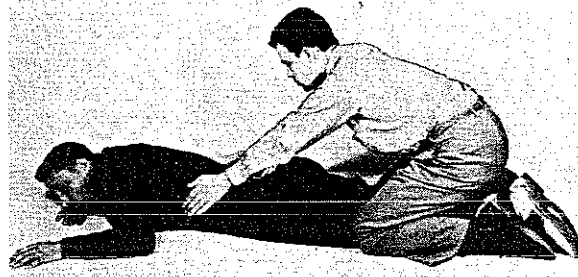

Fig. 78. Artificial Respiration—Ready to Apply Pressure
1. Lay the patient face downwards, one arm extended directly overhead, the other arm bent at elbow and with the face turned outward and resting on hand or forearm so that the nose and mouth are free for breathing. (See Fig. 78.)
2. Kneel straddling the patient's thighs, with your knees placed at such a distance from the hip bones as will allow you to assume the position shown in Fig. 78. In many cases (due to size of the patient) it may be more convenient to straddle only one leg.
Place the palms of the hands on the small of the back with fingers resting on the ribs, the little finger just touching the lowest rib, with the thumb and fingers in a natural position and the tips of the fingers just out of sight. (See Fig. 78.)